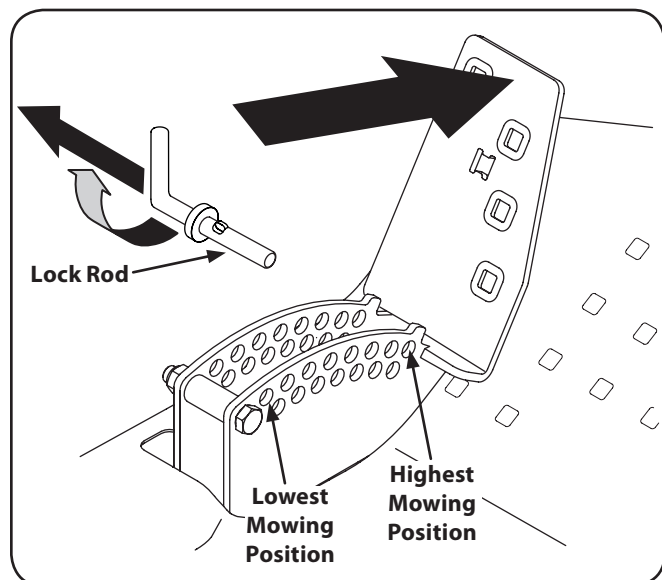

Figure 7-3
2. Place the deck lift pedal in the lowest mowing position and replace the lock pin in front of pedal in the deck height bracket and secure by locking the lock pin. See Fig. 7-3.
- Place the deck lift pedal in the highest mowing position and secure it by placing the click pin behind the pedal. Refer to Fig. 7-3.